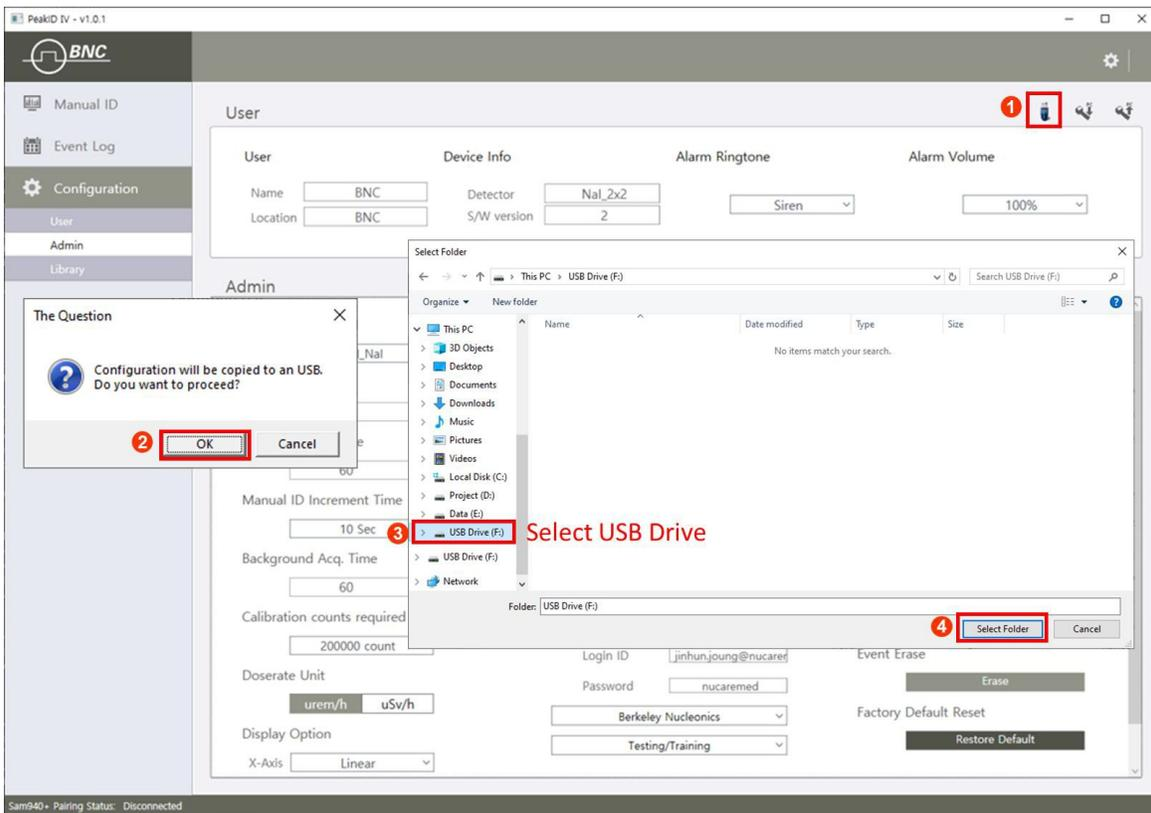

Figure 7.9.2. Copy Configuration to a USB Device
2. Select USB device icon **①**.
3. Confirmation message will be appeared as shown in figure 7.9.2. Click OK.